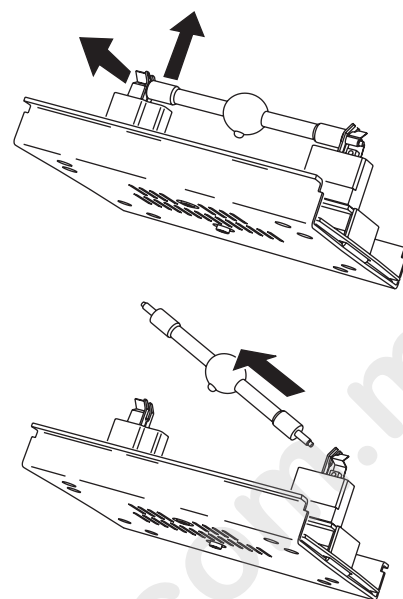

Figure 7: Lamp removal
- 3 See Figure 7. Pull the retention spring on the left-hand end of the lamp socket up and then swing the end of the lamp out. Pull the other end out of the socket.